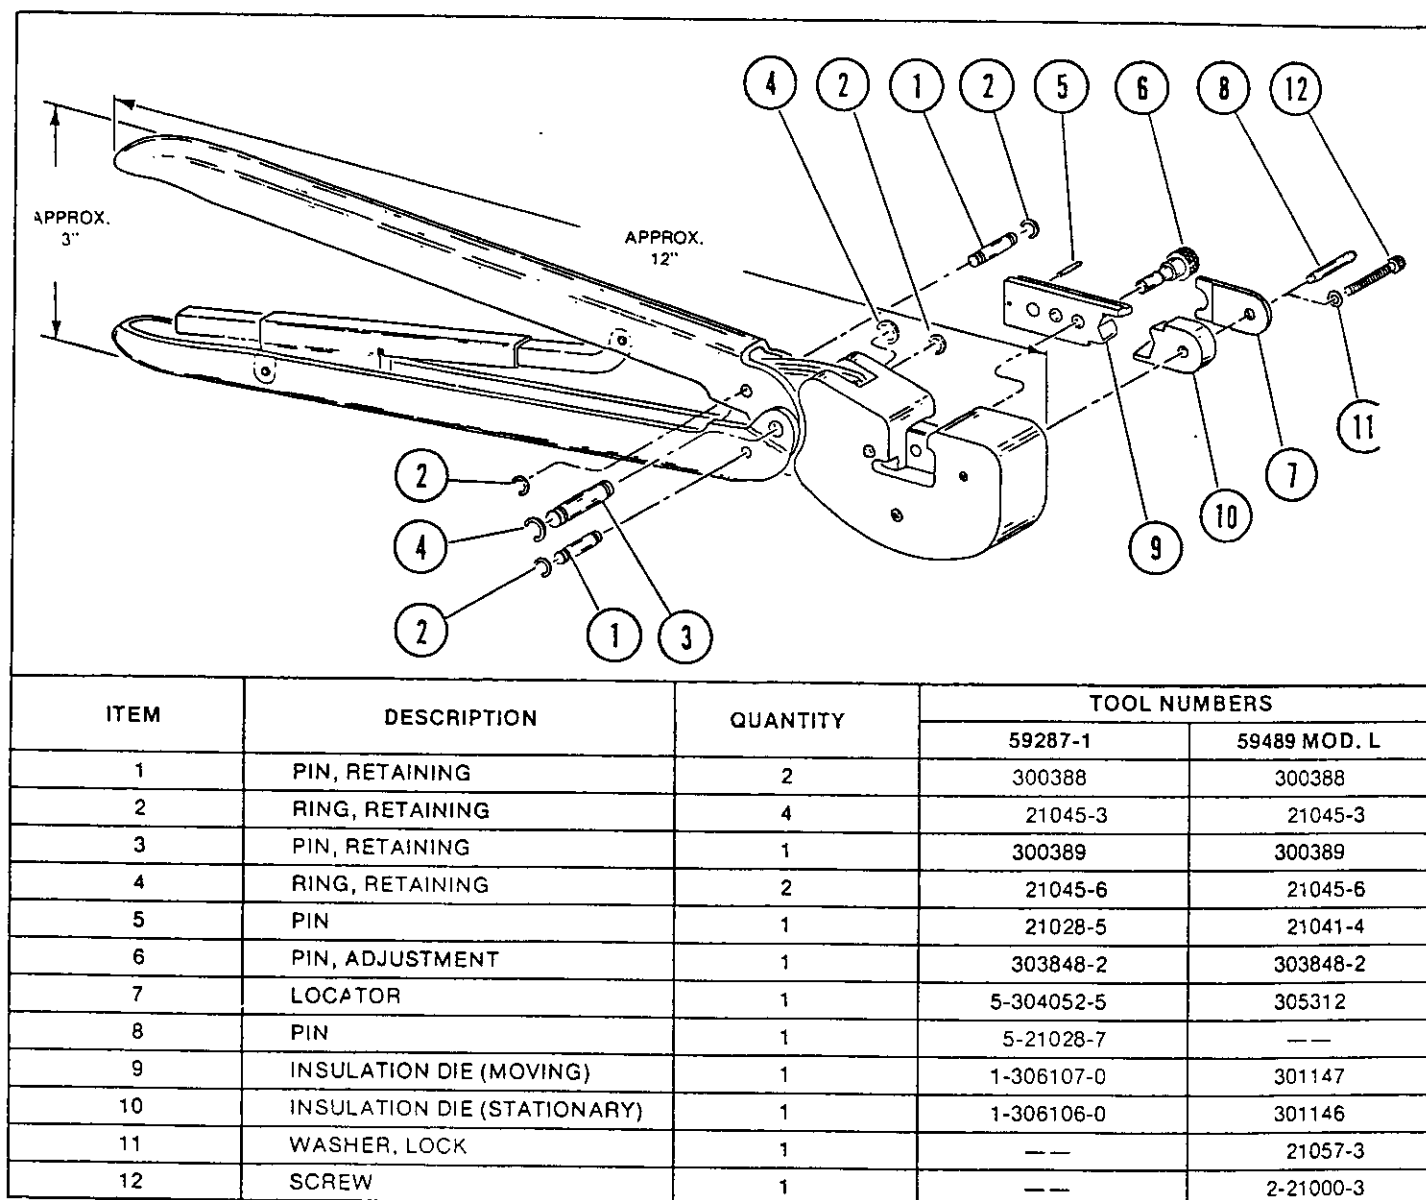

Figure 9
All tools are inspected before packaging. Since there is a possibility of tool damage in shipment, new tools should be inspected in accordance with Section 4 when received in your plant. Due to the precision design, *it is important that no parts of these tools be interchanged except those replacement parts listed in Figure 9.*
- (a) Visually inspect the tool for missing pins or retaining rings. If parts are missing or defective, refer to Figure 9 for customer replaceable parts.
It may be advantageous to stock certain replaceable parts to prevent loss of production time. Figure 9 lists the customer replaceable parts that can be purchased from AMP Incorporated. Parts other than those listed on Figure 9 should be replaced by AMP Incorporated to insure proper CERTI-CRIMP ratchet adjustments.